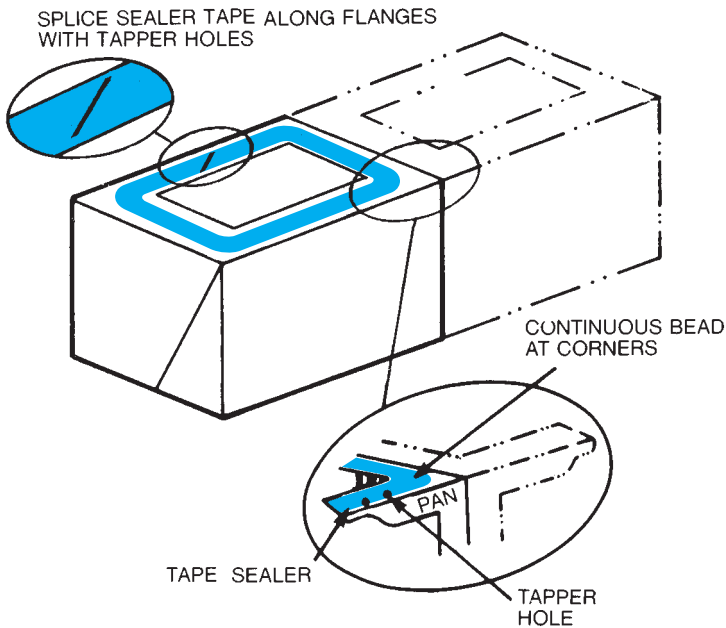

Figure 2
3. Apply the 1" flat **tape sealer** around the periphery of the top flange of the basin-fan section as shown below in Diagrams I, J or K (See Figure 2). This **tape sealer** must be centered directly over the centerline of the taper holes and on the centerline of the end flanges where there are no taper holes.